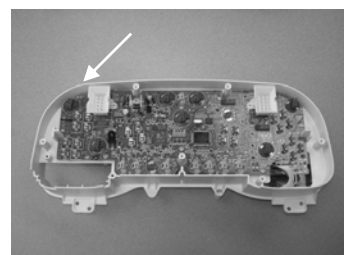

Figure 8
8. Remove the upper left lamp from the back of the circuit board by turning the lamp ¼ turn counter-clockwise with a pair of pliers. (See figure 8)